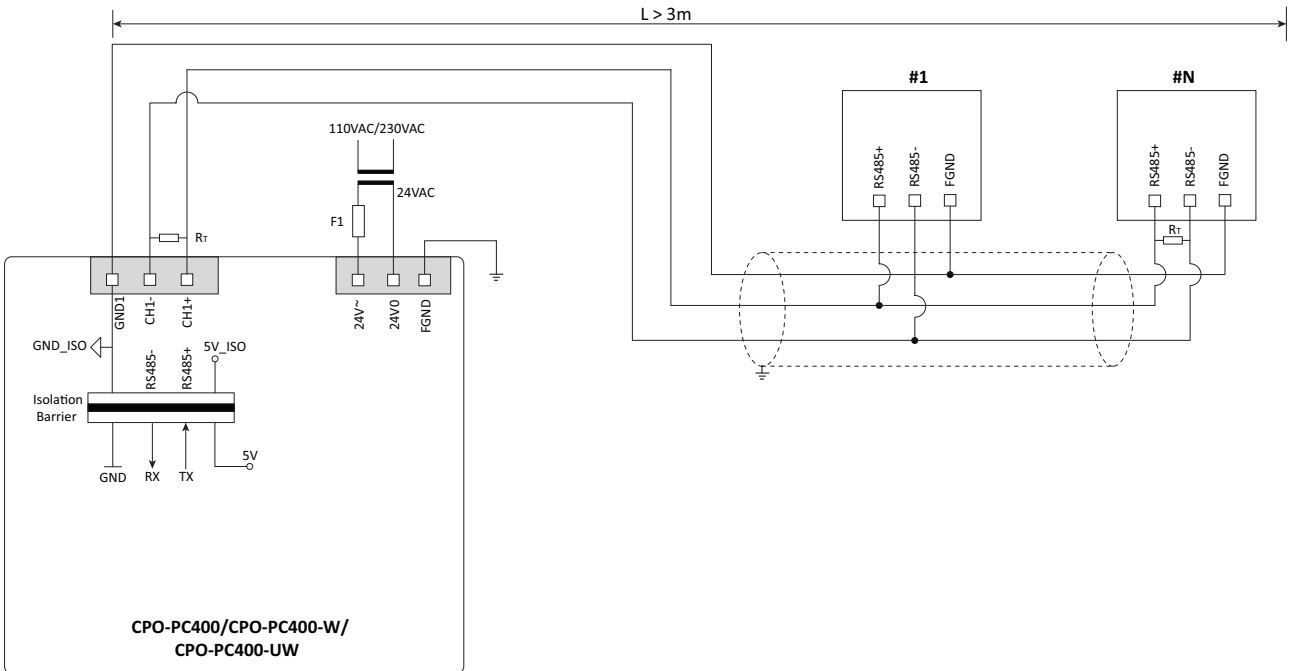

Fig. 14. Connection ($L > 3 m$) of RS485 interfaces 1, 2, or 3 (RS485 interface 1 shown) to a BACnet Bus
- If the connected controllers do not have isolated RS485 interfaces and if they share a common ground between the power supply and Earth ground see the wiring diagrams (Fig. 14) provided in Recommended connection for BACnet MSTP Buses with non-isolated RS485 interfaces. This provides the best electrical noise rejection.